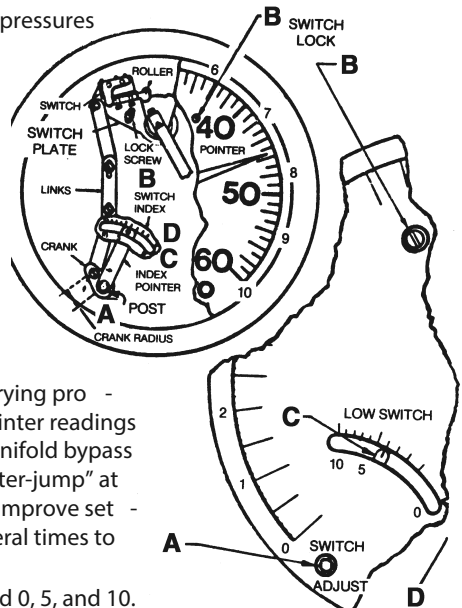

Figure 3-7.
2. Insert hex wrench in switch adjust post, (item A, Fig. 3-7).